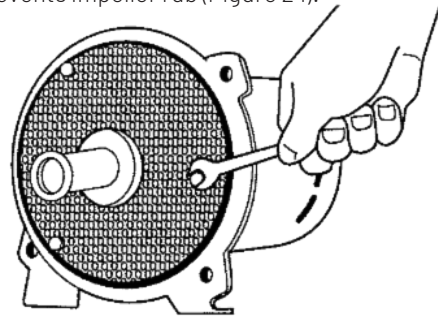

Figure 24: Remove Diffuser
3. Remove the 3 cap screws holding the diffuser to the seal plate and remove the diffuser. When replacing the diffuser, use three .010" thick shims equally spaced between the impeller eye and diffuser opening. This centers the diffuser and prevents impeller rub (Figure 24).